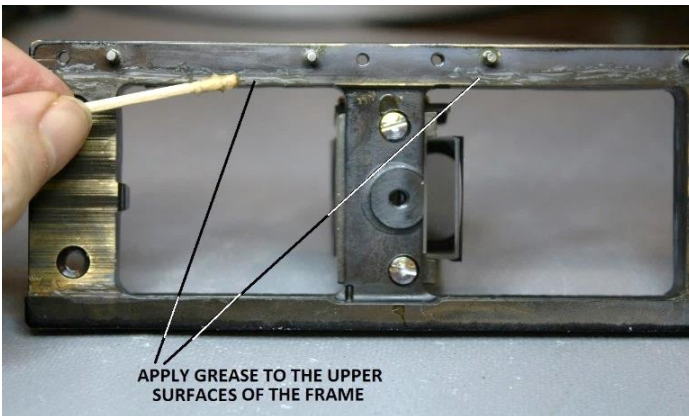

Figure 87 – Apply grease to upper sliding surfaces of frame
Apply a light coating of a suitable grease (item 5 of Appendix 1) to the upper sliding surfaces of the front frame (see Figure 87).